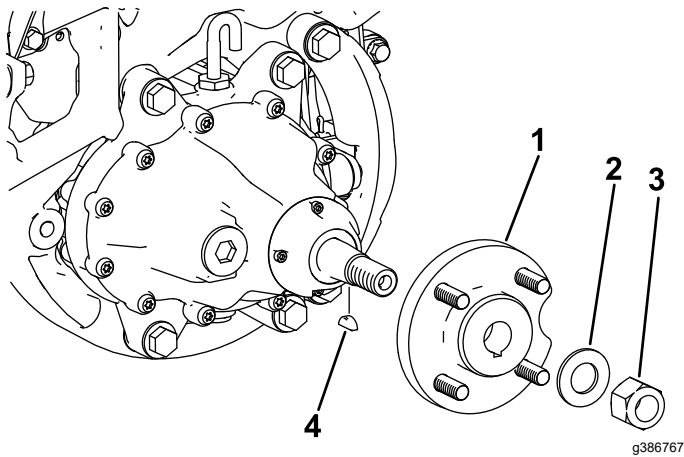

Figure 2
3. Remove wheel hub by removing the corresponding wheel hub locknut and washer (Figure 2).
4. Remove the woodruff key (Figure 2).